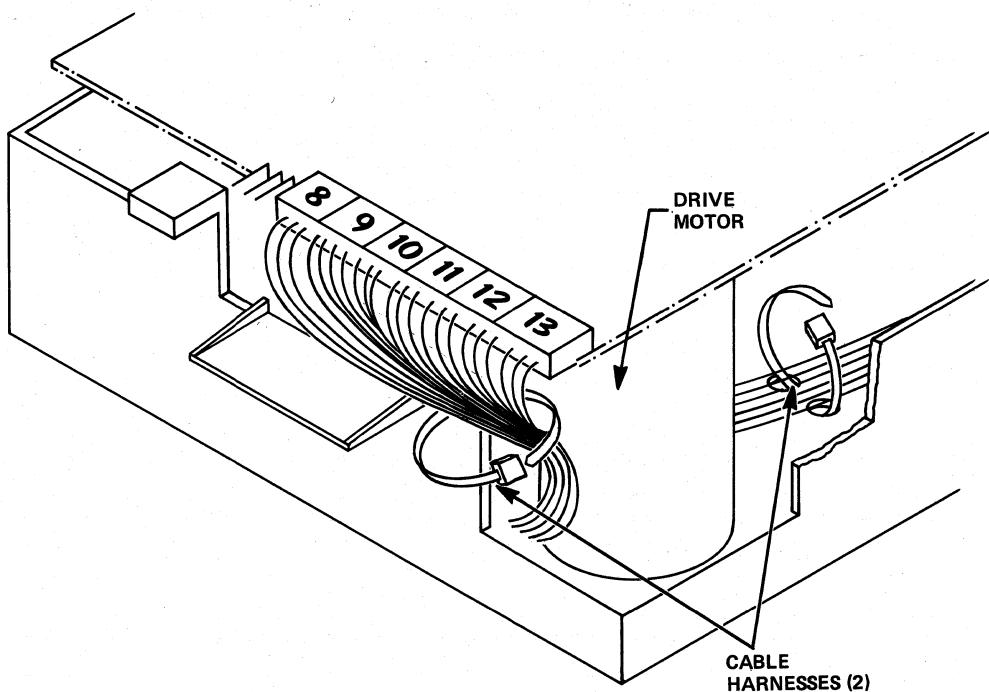

Figure 5-20
- 5.11.2 Cut the two (2) harnesses that hold the bundle of cables at the back of the drive motor, and that attach the cables to the bottom of the chassis (see Figure 5-20).
- 5.11.12 Harness the new Track 00 Sensor Assembly's cables, the Activity LED Assembly's cables, and the Write Protect Switch Assembly's cables to the bottom of the chassis (see Figure 5-20).
- 5.11.13 Harness the bundle of cables, including the new Track 00 Sensor Assembly's cables, located at the back of the drive motor (see Figure 5-20).